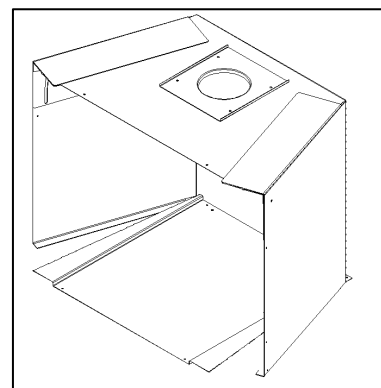

Figure 16: Circulating Chamber Assembly
- Remove the front cover of the unit and cut along the perforated lines to later use as the bottom cover within the masonry fireplace (Figure 16).